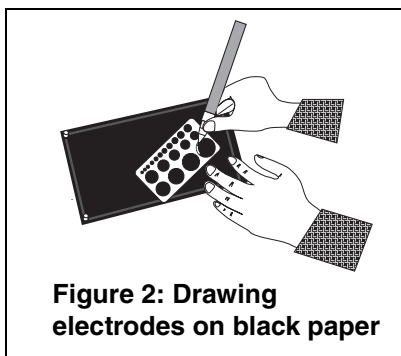

Figure 2: Drawing electrodes on black paper
2. Draw the electrodes on the black paper (See Figure 2).